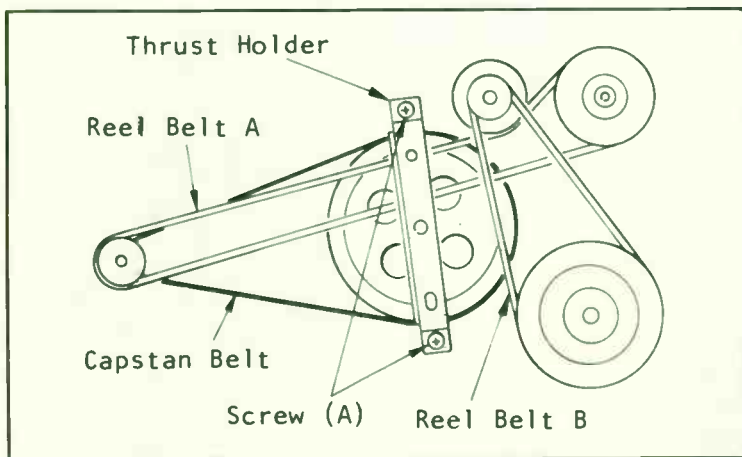

Fig. 10-5. Reel belt drives (courtesy of Magnavox).
1—Remove two screws (A), thrust holder, reel belt B, reel belt A and capstan belt (see Fig. 10-5). If the reel belts are worn, replace them at this time. Note: avoid getting any grease or oil on the drive belts or pulleys.